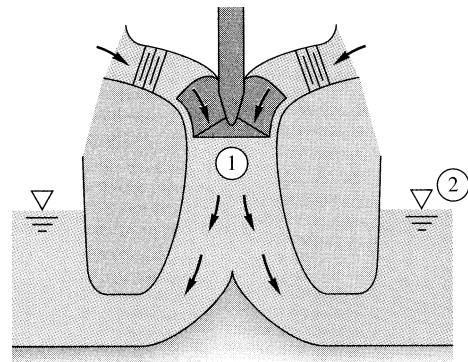

Fig. P11.98
**11.98** Francis and Kaplan (enclosed) turbines are often provided with *draft tubes*, which lead the exit flow into the tailwater region, as in Fig. P11.98. Explain at least two advantages to using a draft tube.
**11.99** Like pumps, turbines can also cavitate when the pressure at point 1 in Fig. P11.98 drops too low. With NPSH defined by Eq. 11.20, the empirical criterion given by Wislicenus [Ref. 4] for cavitation is
Use this criterion to compute how high ( $z_1 - z_2$ ) the impeller eye in Fig. P11.98 can be placed for a Francis turbine, with a head of 300 ft,  $N_{sp} = 40$ , and  $p_a = 14$  psia, before cavitation occurs in 60°F water.